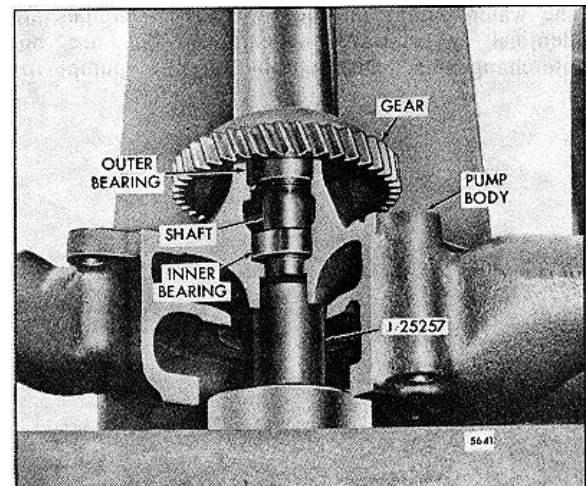

FIG. 9 Pressing Gear on 6V and 8V Pump Shaft using Tool J 25257
4. With gear installer J 25257 (Fig. 9) positioned on the impeller end of the shaft, place the gear between the shaft and the ram of the press. Press the gear on the shaft so it is flush with the end of the shaft.